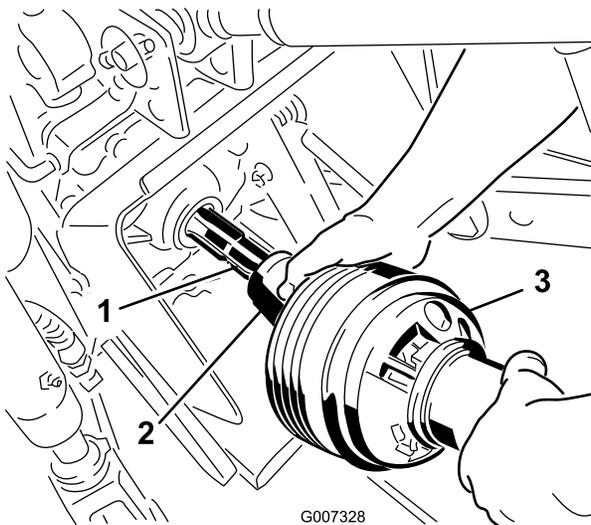

Figure 21
3. Connect the PTO shaft to the tractor PTO shaft (Figure 21).